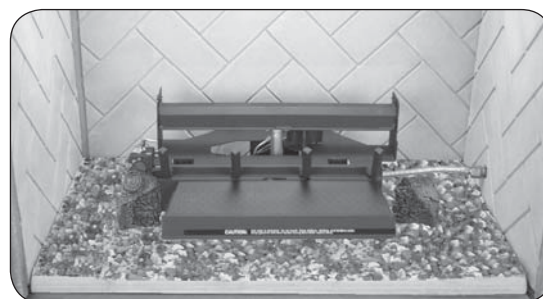

Fig. 22-2 Place lava granules
1. Spread the supplied lava granules on the floor of the fireplace; around the front and sides of the burner system (see Fig. 22-2). The lava granules may be placed around the remote receiver (as applicable). Leave the front of the receiver clear for control access.